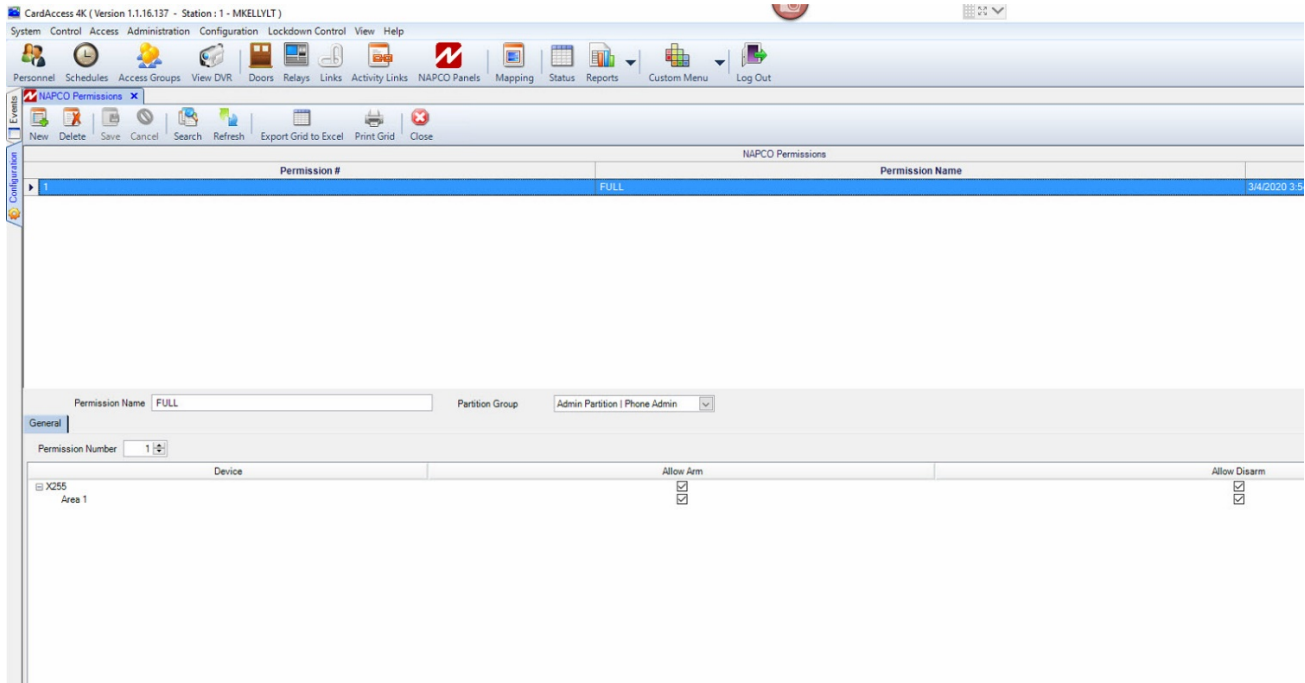

Figure 11.
7. Configure the **Napco Permissions** screen as follows (refer to Figure 11).